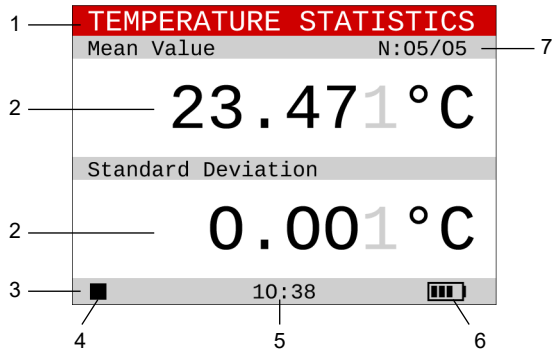

Fig. 5: Example main screen: temperature statistics
The currently set number N is shown after the slash, see (7) in fig. 5.